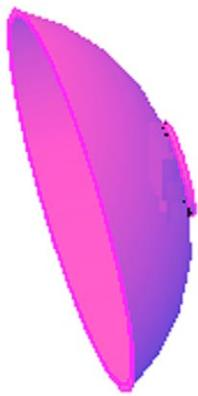

Fig. 14.19 Second example – 3D Mirror – the result in a front view
### Second example – 3D Mirror (Fig. 14.19)
The result is shown in Fig. 14.19.
4. Shade using the **View/Visual Styles Conceptual** visual style (Fig. 14.19).